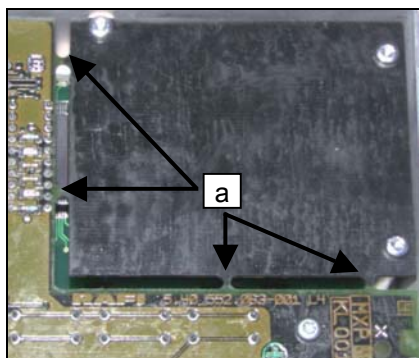

Fig. 25
- Unscrew the three connecting screws of the uncomponented part of the circuit board and cut the uncomponented part at the four links (Fig. 25, a) from the control panel circuit board.